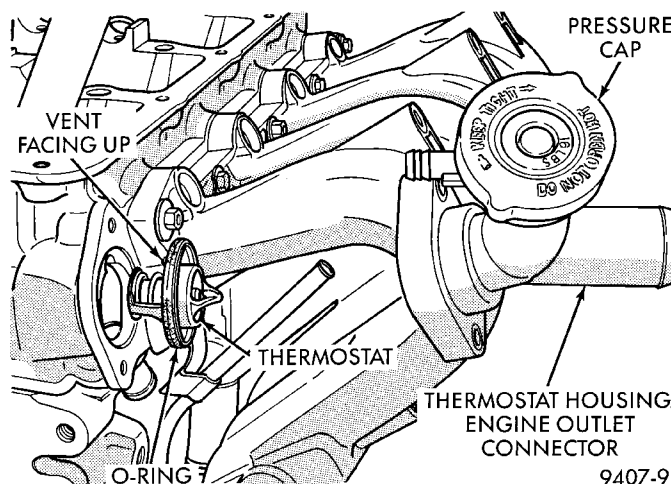
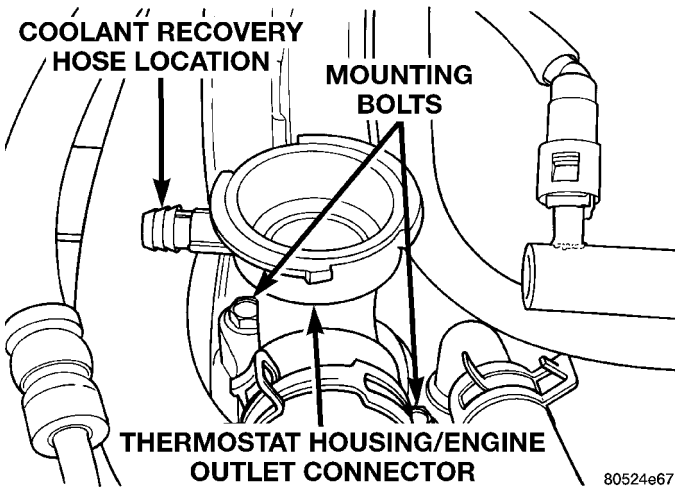

Fig. 18 Thermostat/Engine Outlet Connector—SOHC
Fig. 19 Thermostat/Engine Outlet Connector—DOHC RADIATOR
- (1) Drain cooling system to the thermostat level or below.
- (2) Remove coolant recovery system (CRS) hose and thermostat/engine outlet connector bolts (Fig. 18) or (Fig. 19).
- (3) Remove thermostat an O-ring assembly, and clean sealing surfaces.